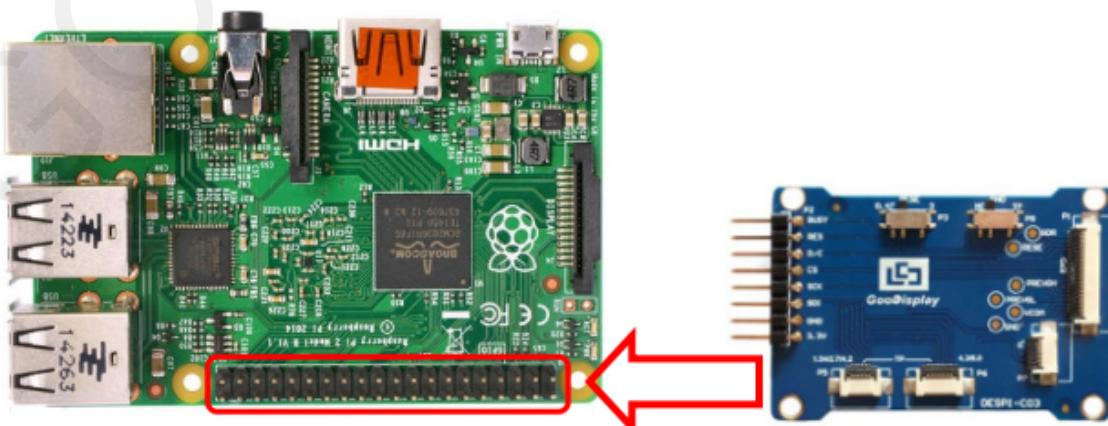
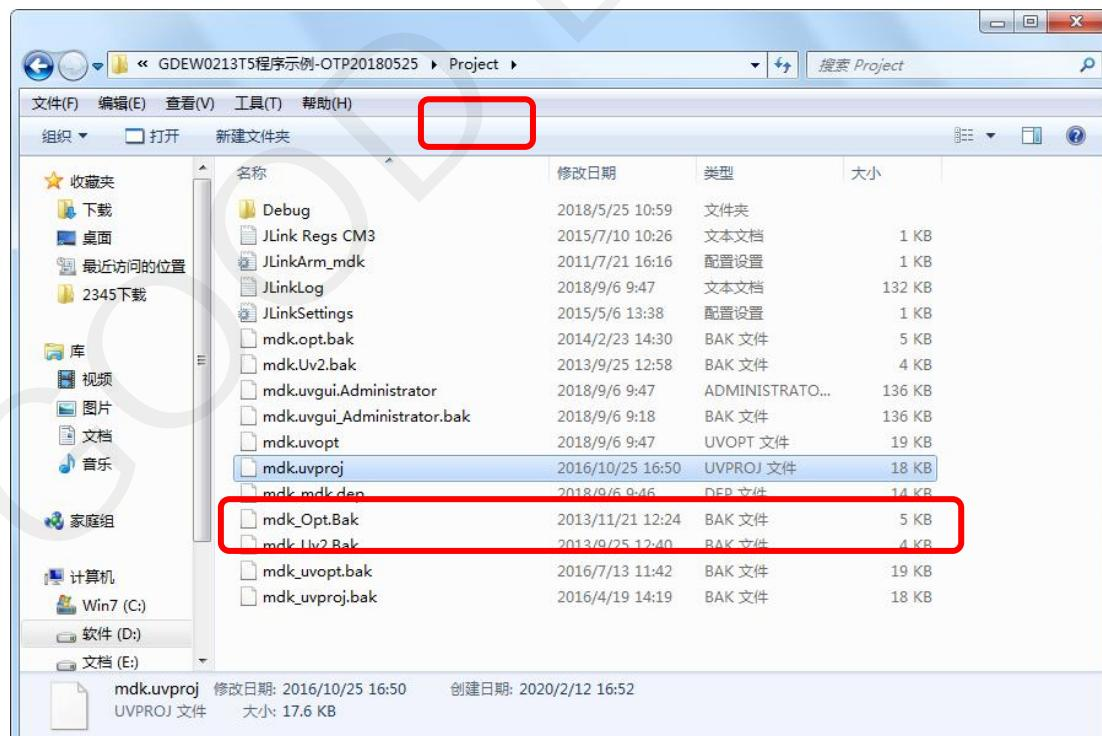

Figure 8 : Connection between DESPI-C03 and Raspberry Pi
Figure 10 : Open the mdk.uvproj
- 2) Open the "mdk.uvproj" in the program folder "Project" shown in Figure 10 with Keil4.
- 9) If you want to change a image, you need to use Keil4 to change the image data (Figure 10), compile it (Figure 8) to generate a new mdk.hex file, and then re-select the file to download it.